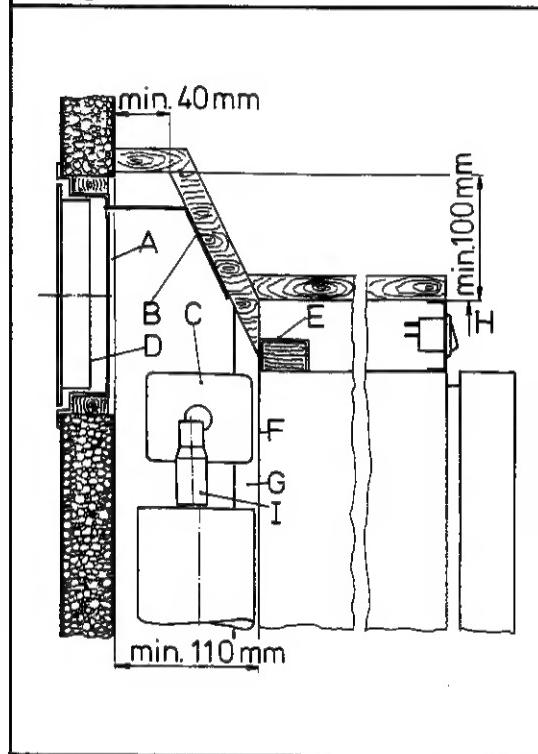
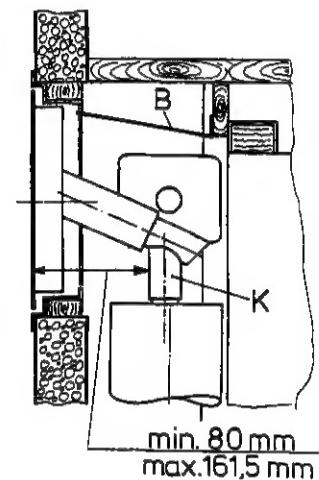

Fig. 6a
Fig. 6b
Locate the lower opening immediately above the floor of the recess, and the upper one as high as possible above the condenser (C) of the refrigeration unit, at least as shown in fig. 6b but if possible as in Fig. 6a.
(shown as D in fig. 6a). It is a good idea, to install the frame R 1610 (A in the same figure), at the same time. Then the grilles can be easily removed which permits inspection and small repairs to be carried out without the necessity for removing the refrigerator from the recess.
The ventilation passage at the rear of the recess, between the outer wall of the vehicle and the refrigerator (fig. 6a/b), is sealed off against the living space, and so cold draughts are excluded (winter camping) and no flue gases can penetrate into the vehicle. Thus a special flue outlet is no longer necessary – the gases are dispersed through the upper vent grille.
The top of the enclosure above the flue tube (I), fig. 6a, should be covered with aluminum sheet metal, as indicated in (B), to facilitate the heat dispersion.
In fig. 6a/b the letters have the following meaning: